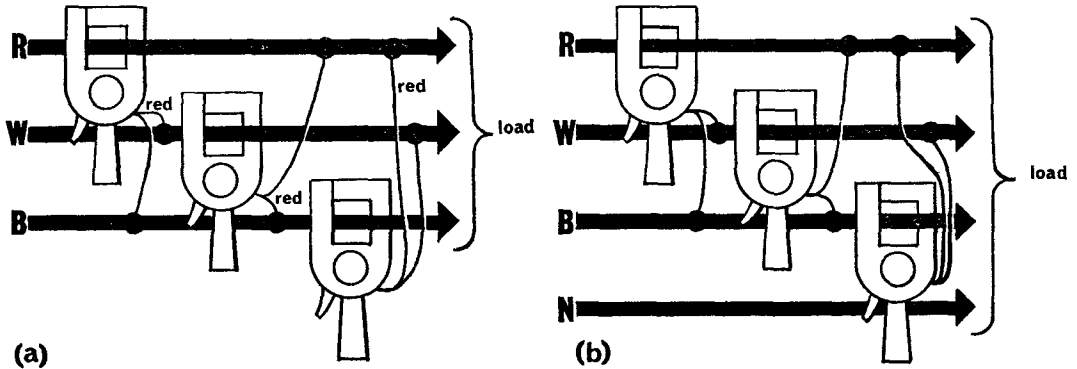

Fig. 4. Reactive power measurements
7. Reactive volt-ampere measurements. Normally three phase reactive volt-amp measurements are made with the current coil in the line conductor (say red) and the voltage leads are connected across the *other two* conductors (white and blue). This means that the potential difference across the voltage coil is *in phase* with the reactive component of the current in the red line, and the meter will measure reactive power (kVar). An extra resistance is automatically introduced in the voltage leads when switched to kVar to correct for the increased voltage obtained by connecting across two phases ($\sqrt{3} \times$ line volts). The meter will read reactive power directly in kVar when connected as shown in figure 4.